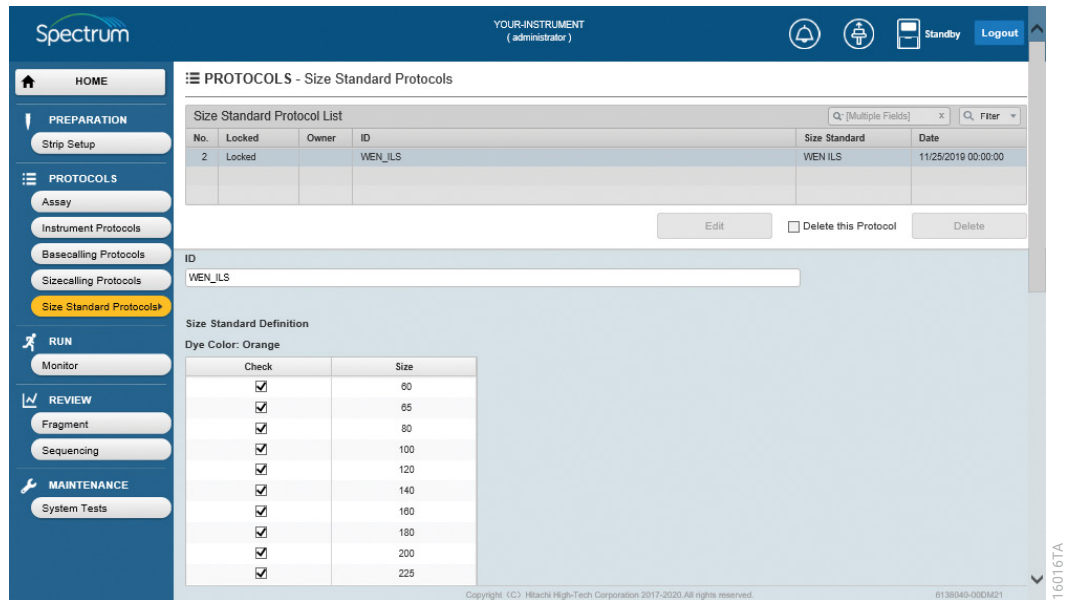

Figure 68. 'Size Standard Protocols' edit screen with active fields.
8. Select **Edit**. This will enable the ID field (Figure 68).